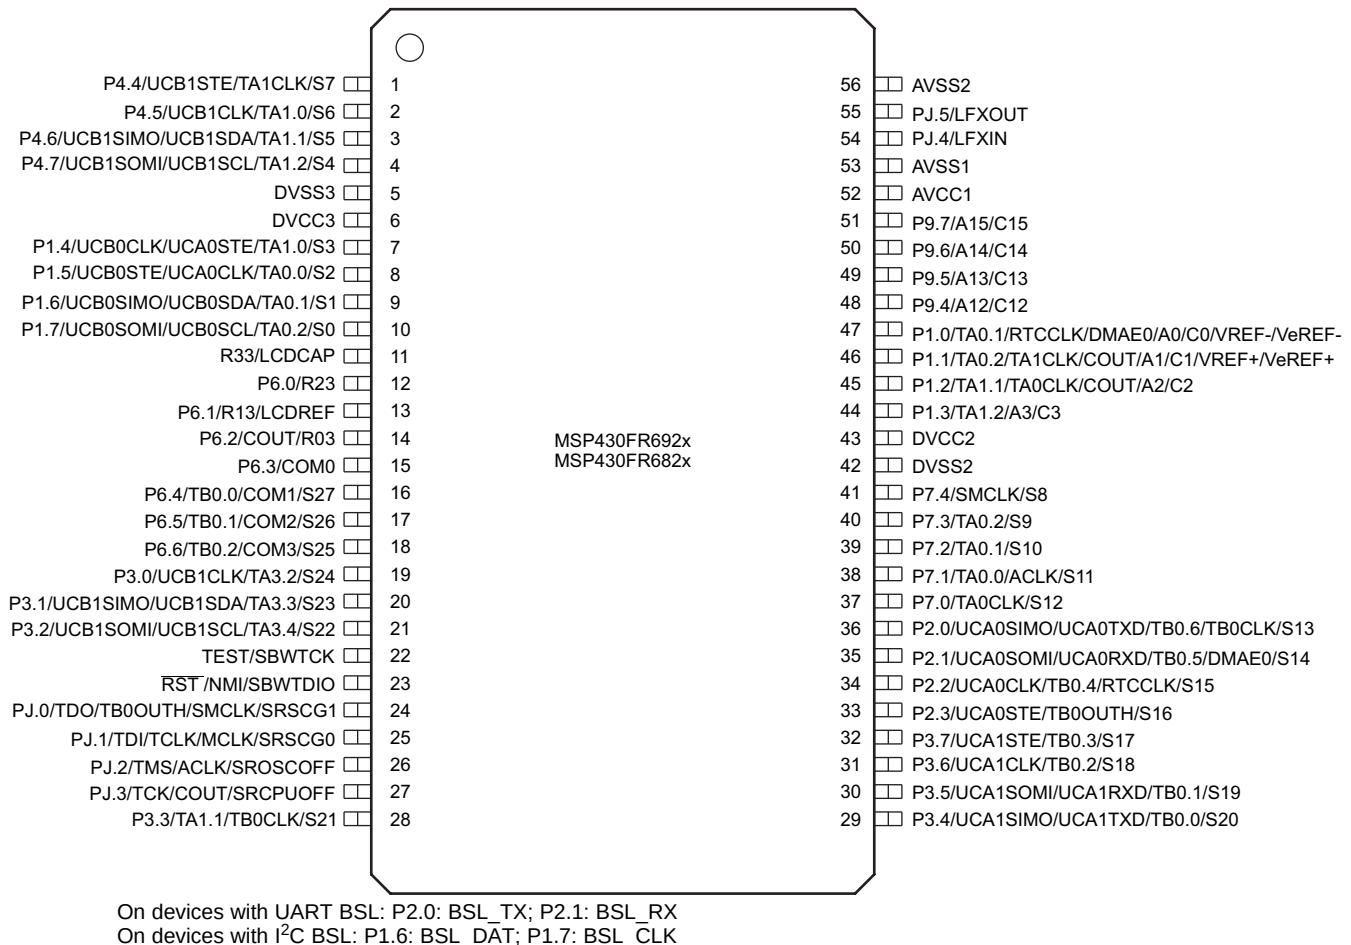

Figure 4-3. 56-Pin DGG Package (Top View) – MSP430FR692x(1), MSP430FR682x(1)
Figure 4-3 shows the pinout for the 56-pin DGG package of the MSP430FR692x(1) and MSP430FR682x(1) MCUs.